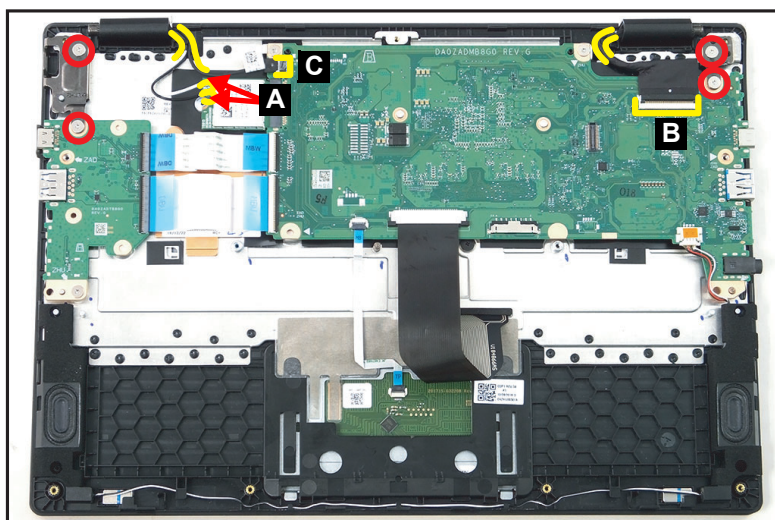

Figure 3-12. LCD Module Removal
1. Disconnect the WLAN antennas cables from the WLAN module connectors (A) (Figure 3-12).
2. Unthread the WLAN antennas cables from the routing channel (Figure 3-12).
3. Release the latch and disconnect the eDP cable from the mainboard connector (B) (Figure 3-12).
4. Unthread the eDP cable from the routing channel (Figure 3-12).
5. Detach the adhesive tape and disconnect the G-sensor cable from the mainboard connector (C) (Figure 3-12).
6. Unthread the G-sensor cable from the routing channel (Figure 3-12).
7. Remove four (4) screws securing the LCD module in place (Figure 3-12).